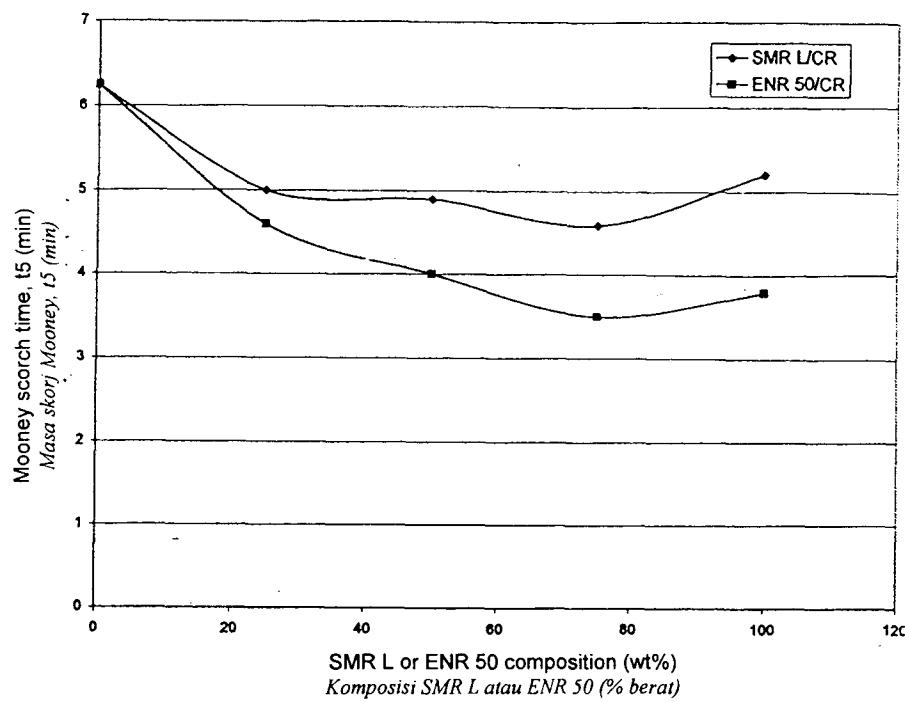
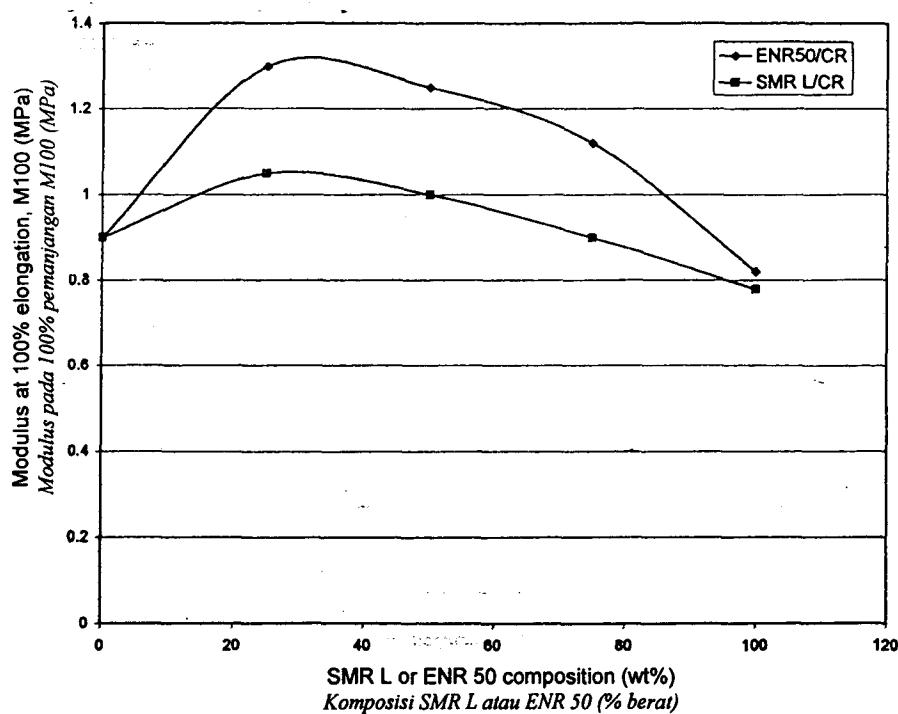

Fig. 1 - The comparison of Mooney scorch time versus blend composition for SMR L/CR and ENR 50/CR blends at 130°C
Fig. 2 - The comparison of M_{100} versus blend composition for SMR L/CR and ENR 50/CR blends
- [b] Figure 1 shows the comparison of Mooney scorch time versus blend composition for SMR L/CR and ENR 50/CR blends at 130°C. Figure 2 shows the comparison of modulus at 100% elongation and M100 versus blend composition for SMR L/CR and ENR 50/CR blends. Explain the results obtained in Figure 1 and Figure 2.